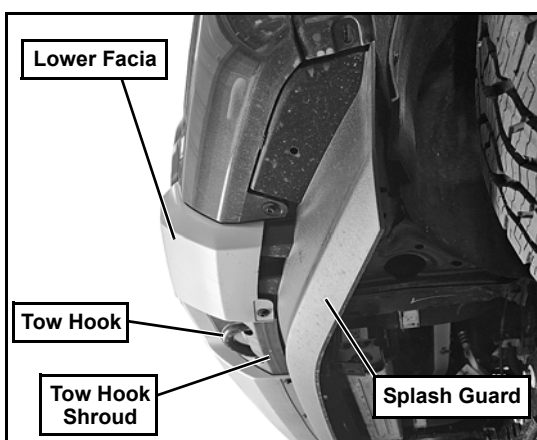

Figure 1-1
1. Remove the splash guard and lower facia from under the bumper. Retain the parts and hardware for possible re-installation (See Figure 1-1).